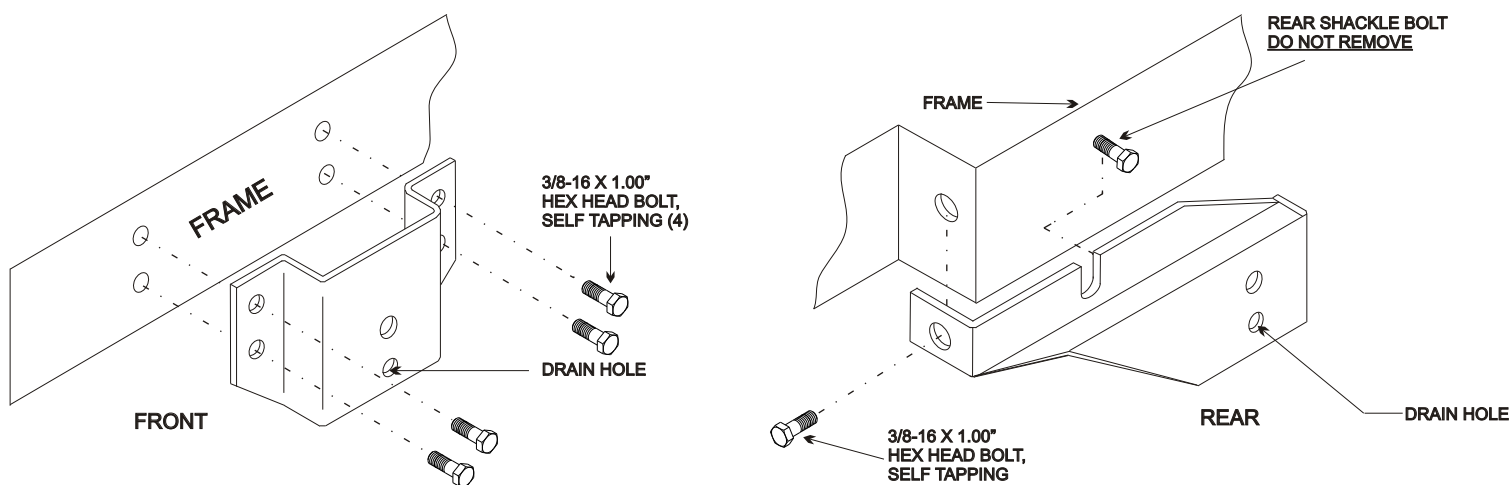

FIGURE 2
- STEP 4. Loosen Rear Shackle Bolt and turn until slotted top edge of Rear Bracket can slide under bolt head. NOTE: Do not remove bolt. **See Figure 2.**
- STEP 5. Place rear of Step Bar up to rear suspension point and tighten Shackle Bolt until it holds Rear Step Bar Bracket in place. **See Figure 2.**
- STEP 6. Hold up front end of Step Bar to front frame. Check to be sure Step Bar is properly aligned with body. Mark hole locations. **See Figure 2.**
- STEP 8. Secure Front Mount Brackets to frame using (4) 3/8-16 x 1.00" Self Tapping Bolts. NOTE: Do not over tighten.